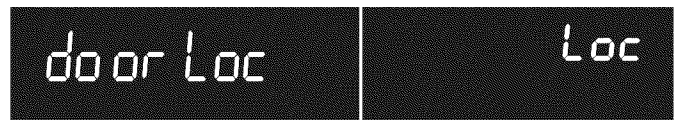

Figure 26: Display showing door locking and in locked position
2. Press and hold **Oven Lockout** for 3 seconds. **door Loc** will appear in the display. (Figure 26) The motor driven door latch mechanism will begin locking the oven door automatically. Do not open the oven door. Allow about 15 seconds for the oven door to completely lock. Once door is locked, **Loc** will appear in the display.